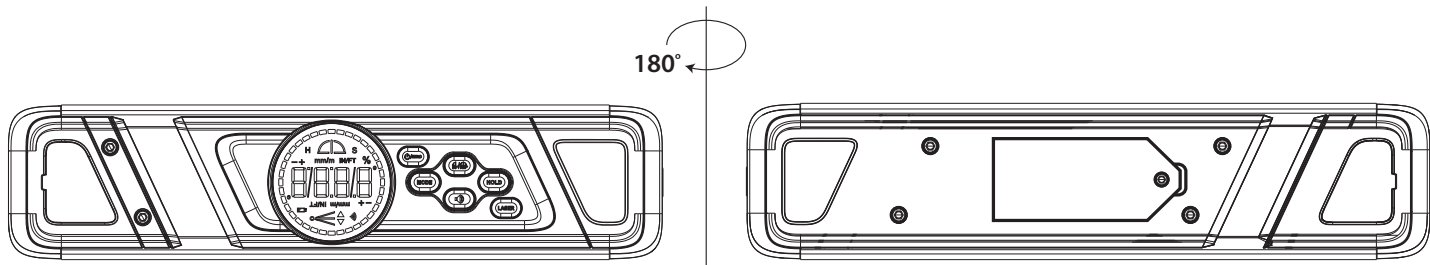

Figure 3
- Press (1) to turn the device off. Place the device on a flat surface. Press and hold (3), and then press (1) until **CAL1** appears on the display (8).
- Without moving the device, press (3). **CAL1** starts flashing and then changes to **CAL2**.
- Rotate the device 180°, and then press (3). **CAL2** will start flashing. When **CAL2** changes to **CAL3**, the horizontal calibration is complete (Fig. 3).